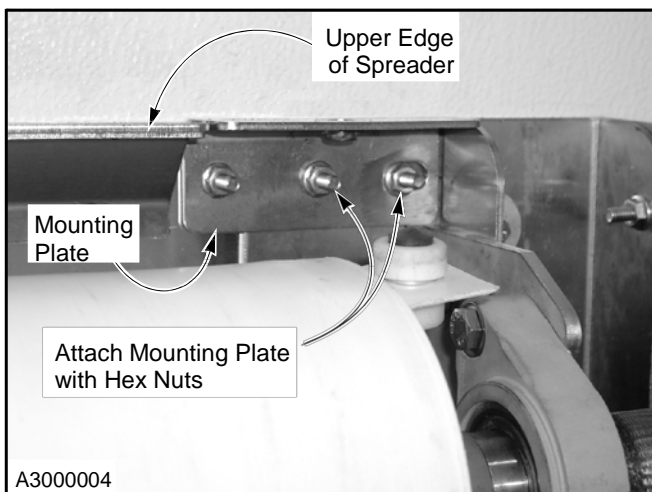

Figure 16
2. Attach the spreader assembly to the side columns using a flat mounting plate and three 1/4-20 serrated-flange hex nuts at each end of the spreader. The mounting plates and nuts were shipped in the small parts carton. (See Figure 16.)